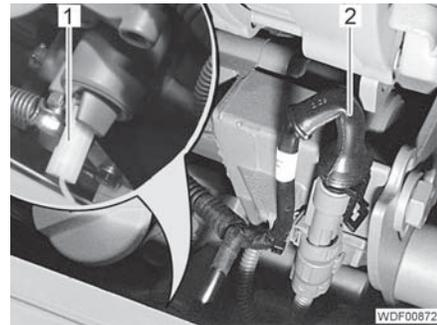

Fig. 46 Electrical connectors (rear)
- Attach the connector (Fig. 46,1) to the negative contact pin.
- Remove the connector (Fig. 46,2) of the cutoff solenoid.